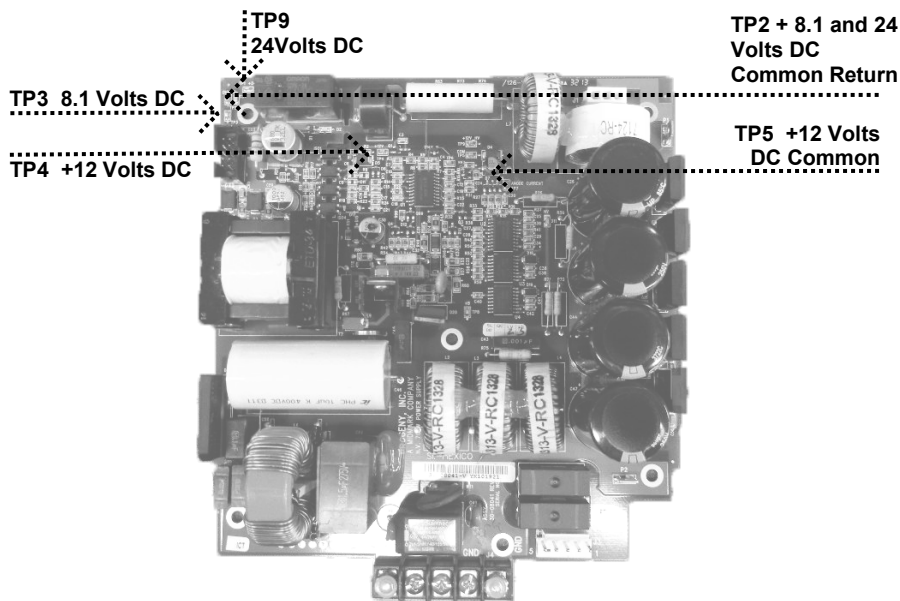

Figure 61
2. On the Power Supply Board, use TP2 as a common test point to check TP1 +24 volts DC and TP3 8.1 volts DC. Then use TP5 as the common return to check TP4 for the presence of +12 volts DC, as shown in *Figure 61*. Should any of these voltages not be present, replace the Power Supply Board. If these voltages are correct, next check voltages on the Logic Board.